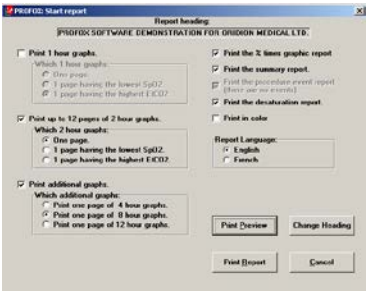

Figure 29. Profox Start Report Screen
- 1. When data finishes collecting, select *Stop recording*. The Main Menu screen will appear. From the Main Menu screen, select *Print* or *Preview Reports*. The Start Report screen (seen in Figure 29. Profox Start Report Screen, below) will appear.